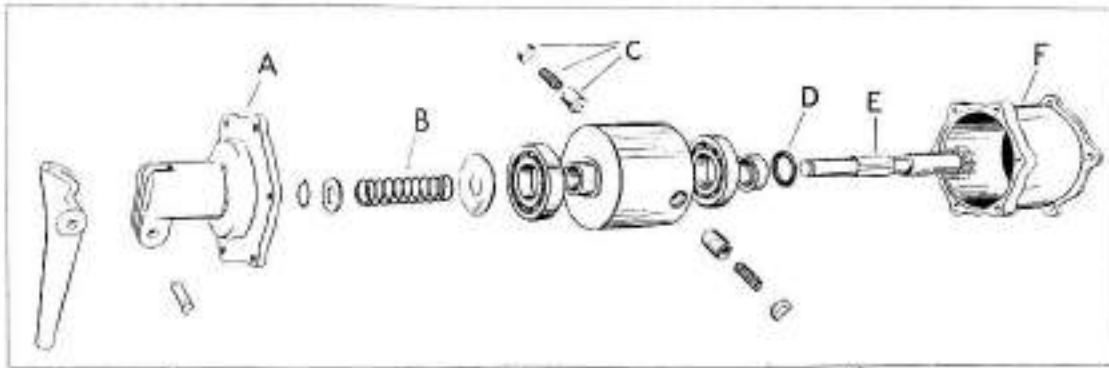

FIG. 14 EXPLODED VIEW OF INERTIA STARTER
To dismantle the inertia starter grip the body firmly in the vice. Remove the end cover (A fig. 14) tapping it off the ballrace. Remove from the vice, tap the casing (F) downwards and lift the flywheel assembly out.